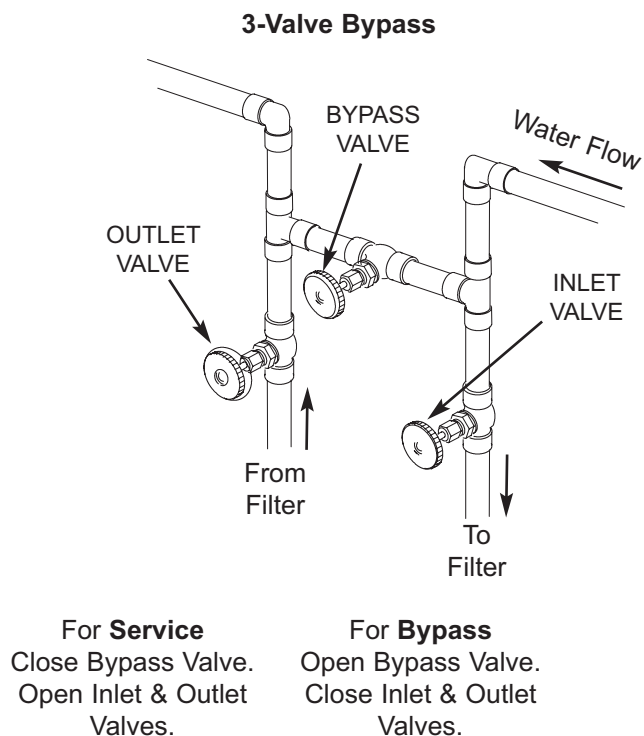

FIG. 91
3-VALVE BYPASS (See Figure 91)
4. Are plumbing bypass valve(s) in service position (See Figures 91 & 92 on Page 27)?